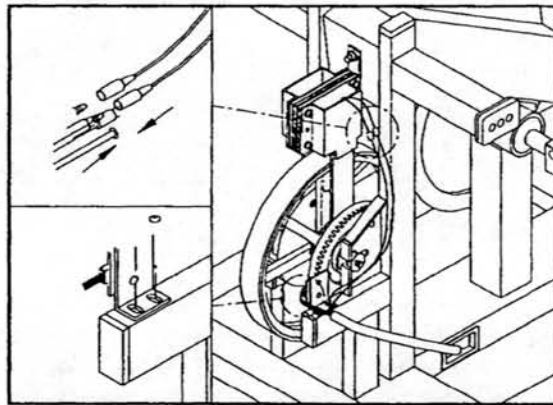

Fig.5-7
2. Connect the harnesses of the ELECTROMEGNET and secure the OPTICAL SWITCH on the FRAME.(see fig 5-7).